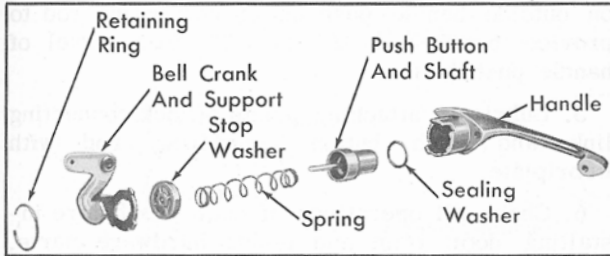

Fig. 17-25 Rear Door Outside Handle-Disassembled
2. Remove retaining ring, bell crank and support, stop washer, spring, push button and shaft, and sealing washer, Fig. 17-25, from handle assembly.
(26) Rear Door Lock Assembly Removal and Installation